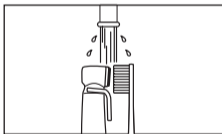

Fig. 14
- 1) Clean the external surfaces of the handpiece with a soft bristled toothbrush for 15 seconds or more (Fig. 14).